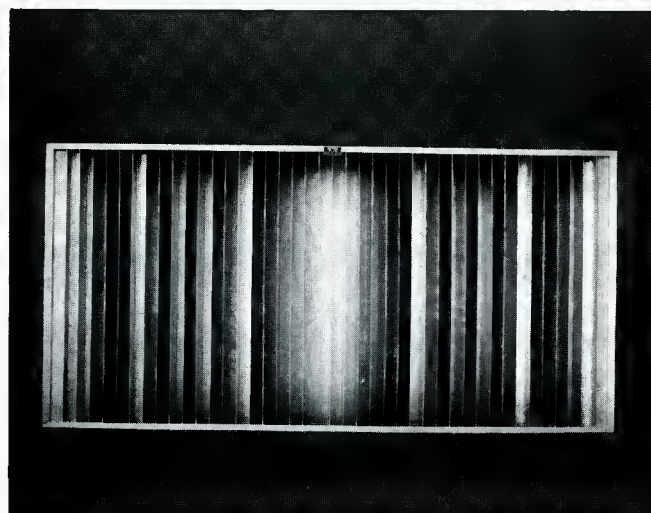

Figure 4. RPG model QRD-4311 with 43 1.1 inch wells per period. The unit is 23 7/8 " x 47 3/4 " x 15 7/8 " and weighs 60 lbs.
dividers (2). A QRD cluster is shown in *Figure 4*. The diffraction directions for each frequency are determined by the width of the repeat unit and the intensity in any direction is determined by the depth sequence within a period. The depths are based on mathematical number-theory sequences (1). At this time the quadratic-residue sequence appears to be the most effective.